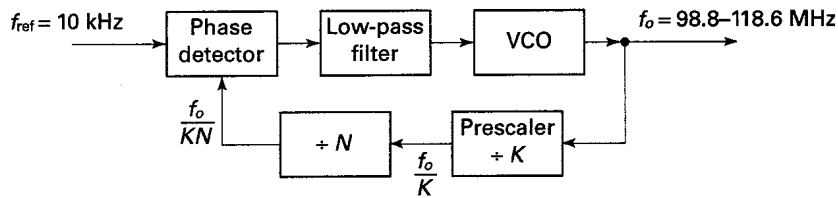

Fig. 2-19
Figure 2-19 shows a frequency synthesizer which uses a technique known as prescaling. With this technique, a fixed-modulus counter prescales or reduces the VCO output frequency  $f_o$  by a constant factor  $k$ , to a value that can easily be handled by the integrated circuit(s) used for the programmable counter. The fixed-modulus prescaled counter is made up of very fast logic elements such as emitter-coupled logic (ECL) units. In Fig. 2-19, notice that the phase detector has input frequencies of  $f_{ref}$  and  $f_o/KN$ . Therefore:
**EXAMPLE 2.10.** Figure 2-19 shows a prescaling frequency synthesizer which produces one hundred different output frequencies in a range from 98.8 to 118.6 MHz. Each frequency is to be separated by 200 kHz. Determine the required divide-by- $K$  factor as well as the minimum and maximum values for the  $+N$  counter. The reference frequency  $f_{ref}$  equals 10 kHz.